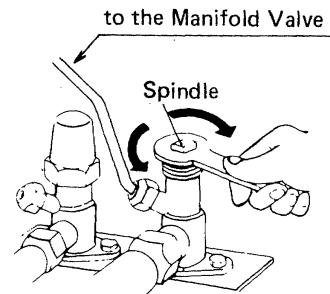

Fig. 33
- e) Remove the cap from the wide tube service valve and turn the spindle gradually until it is back seated. Fig. 33